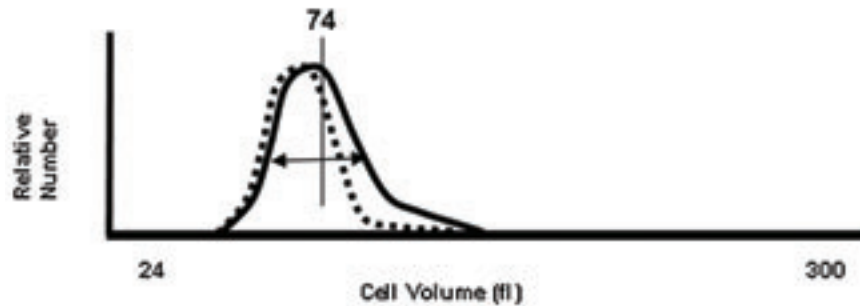

Figure 5.8
- Increased RDWa as a result of macrocyte production is seen as a widening of the RBC histogram on the right side. This is typical of regenerative anemia. This may also occur in myelodysplastic disease, especially in cats, in which there is a chronic poorly regenerative anemia. An example of an increased RDW due to macrocytic cell production in a dog with regenerative anemia is shown in Figure 5.8. The response has resulted in a mildly increased MCV. The dashed curve indicates a normal histogram, while the solid curve indicates the patient histogram.